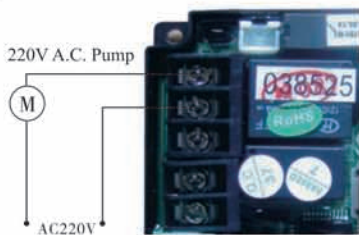
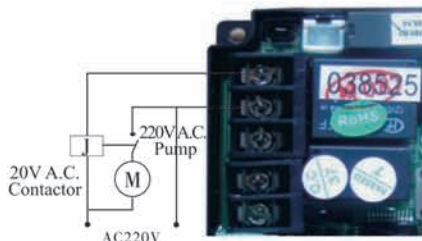

Figure 3-7 Wiring of Booster Pump on Inlet
Figure 3-8 Wiring of Booster Pump on Inlet
**Instruction:** If inlet water pressure is less than 0.15MPa, which makes rinse drawing difficult, a booster pump is suggested to be installed on inlet. Control mode b-01. When system in regeneration cycle, booster pump is open, the wiring refers to Figure 3-7. If the booster pump current is bigger than 5A, the system needs to install a contactor, the wiring refers to Figure 3-8.